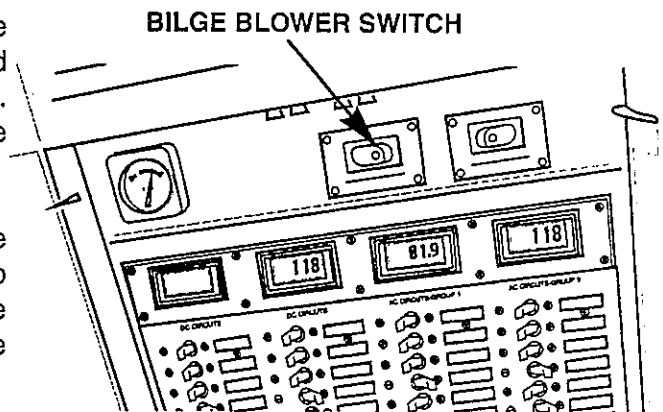

Figure 3-30 Bilge Blower Switch
6. See Figure 3-30. Prior to entering the compartment, operate the bilge blowers to ventilate the area. Bilge blower switches are located on the bridge control console and above the Master Control Panel in the salon.
5. Open the boat up for natural ventilation. See Figure 3-30. Use the bilge blowers to ventilate the area.